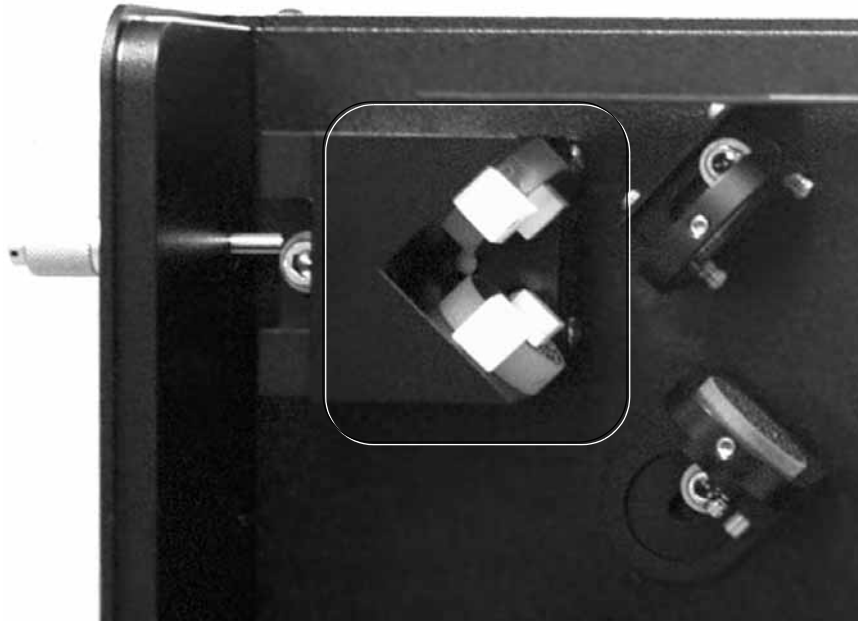

Figure 3-11. Variable Delay Block
2. Use a 3/16" ball driver, hold with one hand the variable delay block (see Figure 3-11) and move the block from its sliding stage one hole closer to the 50% splitter.
5. Wear finger cots or latex gloves. Replace the silver mirror with the 1200 ln/mm grating holder. The grating is oriented in the mount so that the side of the grating that has the arrow mark is on the top. Make sure that the grating holder is mounted so the grating edge is as square to the side of the mirror mount as possible (Figure 3-11).